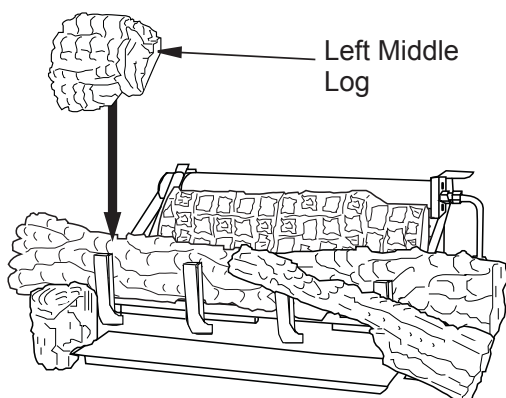

Figure 33 - Installing Left Middle Log
6. The left middle log has a groove on the bottom to sit on the chassis and has to sit on the tab on the back of the left front log as shown in **Figure 33**.